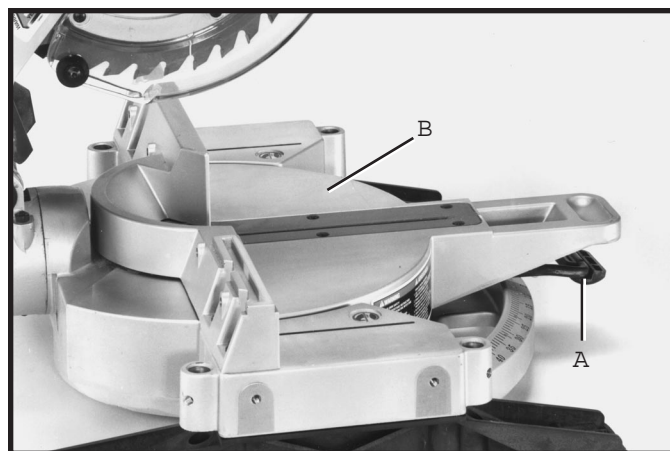

Fig. 7
2 Fig. 7, illustrates the table (B) in the 90 degree straight cut-off position. NOTE: Table lock lever (A) must be depressed when rotating table. When lock lever (A) is not depressed, the table is in the locked position and cannot be moved.